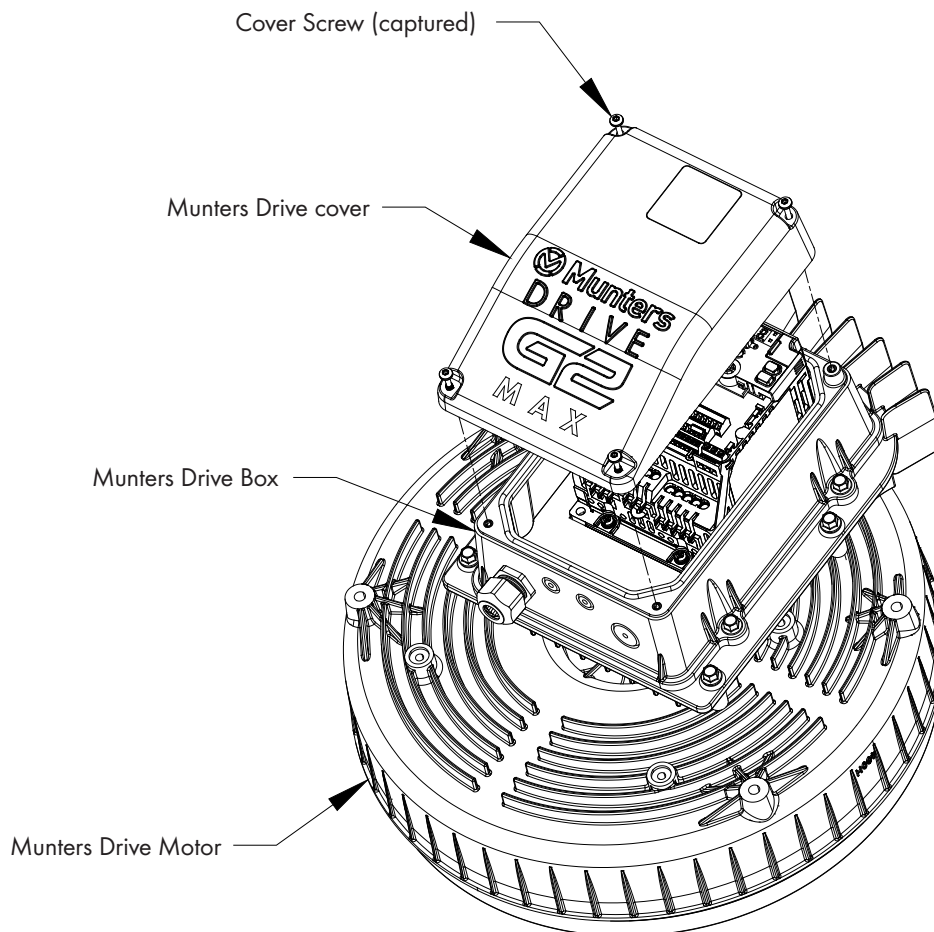

Figure 2
All cables that enter the Munters Drive box must enter through a properly sized watertight fitting. To access the Drive, loosen the (4) screws in the cover of the Munters Drive box to access the terminals inside to connect power and other cables. See Figure 2.